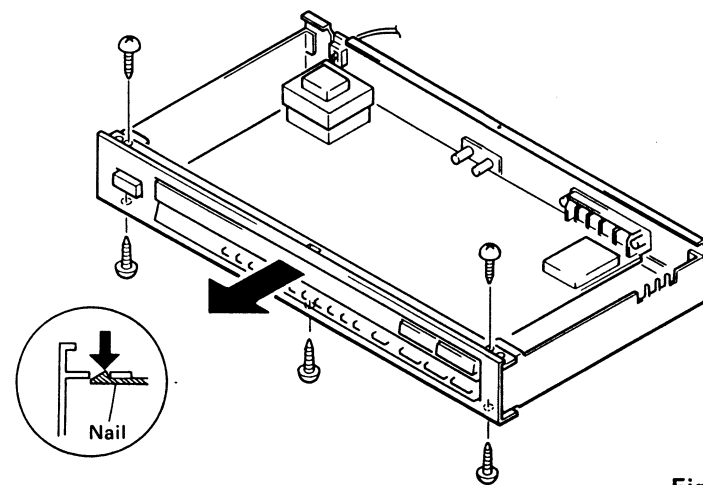

Fig. 7
2. How to remove the Front Panel Ass'y (Fig. 7)